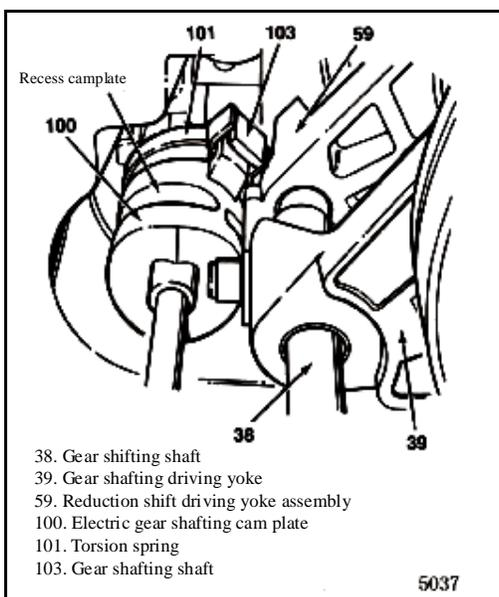

Fig. 5-17
- a. Place the electric gear shift cam group as shown in Fig. 5-17.
- b. Hold gear shifting (38) downward, and gently lift shifting yoke assembly (Parts 59 and 39). Rotate the electric gear shift cam group to position so that the roller on reduction shifting yoke assembly (59) enter the groove on the gear shifting cam and that the protrusion of lock shifting yoke (39) is located on the tail end of gear shifting cam. Then lower this group to enable it to enter the transfer box casing, and at the same time engage gear shifting shaft (103) to the pin in the transfer box casing.
- c. Place gear shifting outer gear sleeve (32) through the clutch casing, and install retaining ring (30).